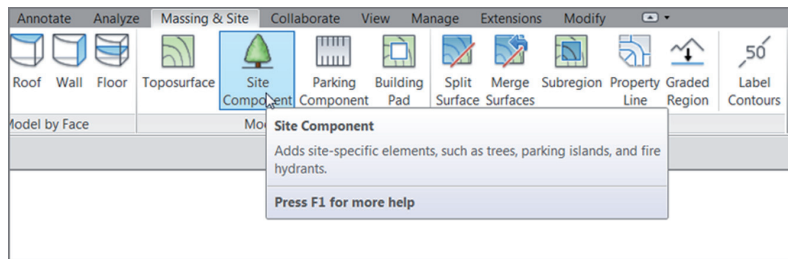

FIGURE BC3.14: The Site Component button
6. On the Massing & Site tab, click the Site Component button, as shown in Figure BC3.14.
4. Add Parking Symbol – ADA, and place it as shown in Figure BC3.14.